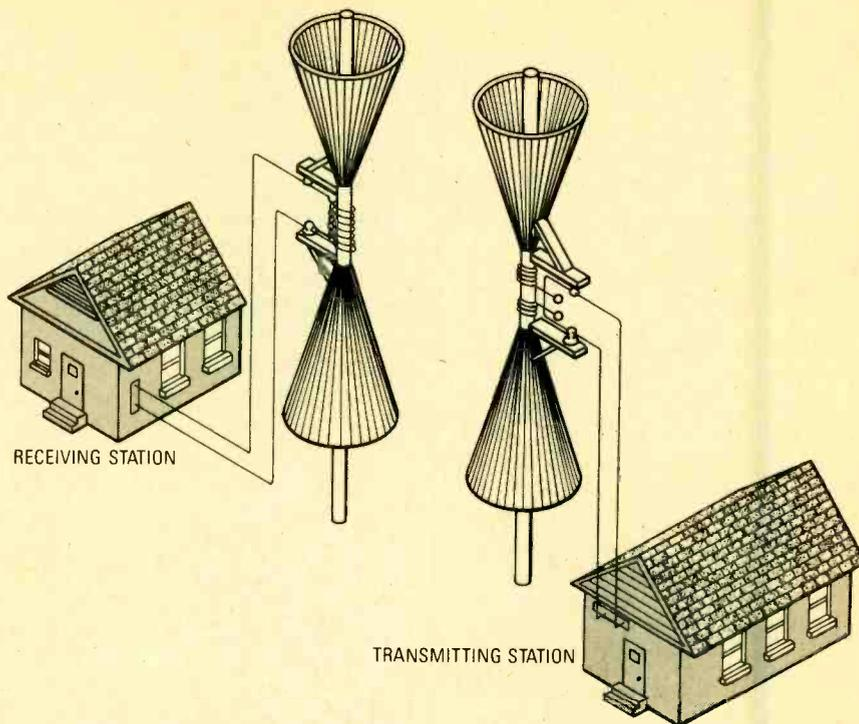

Fig. 4. Lodge's antenna designs provided frequency selectivity. The transmitter contained inductive coupling also.
The form of the antenna recommended by Lodge, however, achieved the required capacitance through construction of the dipole elements using multiple wires, or sometimes sheet metal, in the form of cones as shown in Fig. 4. Lodge then made the antenna frequency selective by adding a coil at the apex end of each of the two cones.
Fig. 4. The D-flip-flop can be configured to function as a toggle (T) flip-flop by connecting the D input to the \bar{Q} output, and connecting both the PR and CLR inputs to the positive supply rail, as shown here.
shown in Fig. 4. The clock (CLK) input of the D flip-flop then becomes the equivalent of the T input of a T flip-flop. When operated in that mode, the D flip-flop (like the device it emulates) toggles (changes states) once for each input clock pulse. As with the T flip-flop, it takes two full pulses to complete one output cycle, so the frequency of the output is half that of the input.